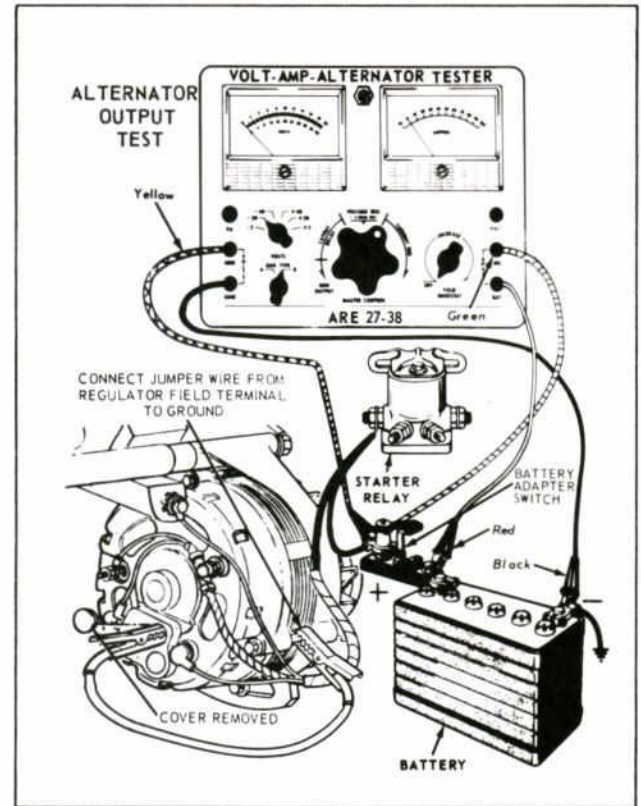

Figure 5—Alternator Output Test
1. Check the alternator drive belt tension. Place the transmission in neutral or park and apply the parking brake. Make the tester connections as shown in Fig. 5 Volt-Amp-Alternator Tester, being sure to connect the jumper wire as shown. Be sure that it is securely clipped to the regulator field terminal and the field rheostat knob is OFF at the start of test.